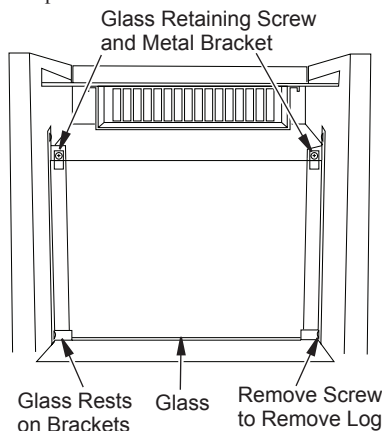

Figure 6 - Glass Retaining Screw and Bracket Location
5. Remove 2 screws and metal brackets at top of glass (see Figure 6).
7. Carefully insert new glass. Glass will rest on brackets located on sides of stove (see Figure 6).
1. Remove bottom screw from side bracket that glass rests on (see Figure 6, page 5). You can do either side but do not have to do both.